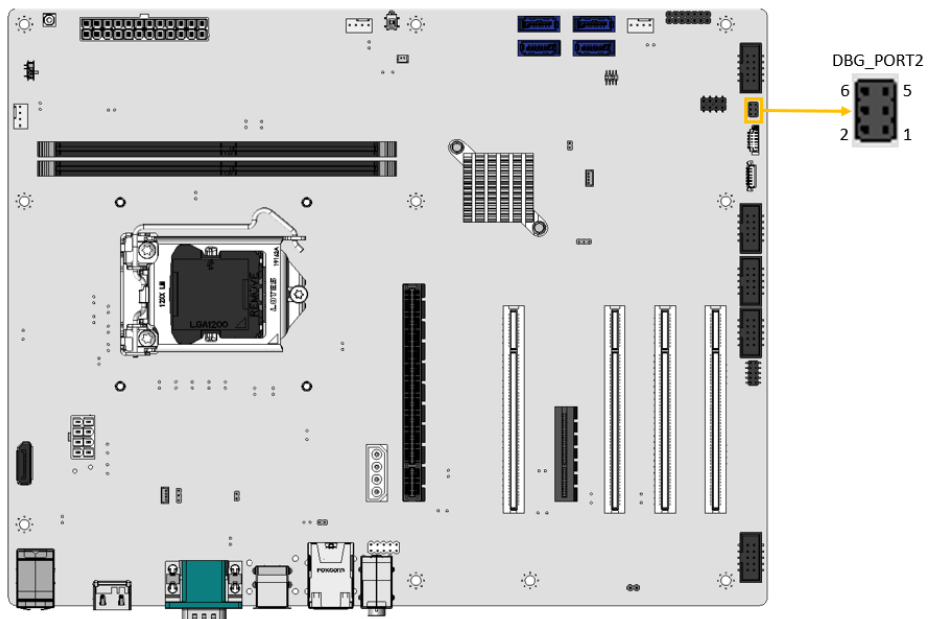

Figure 3-9: Debug Connector Location
- CN Location:** See **Figure 3-9**